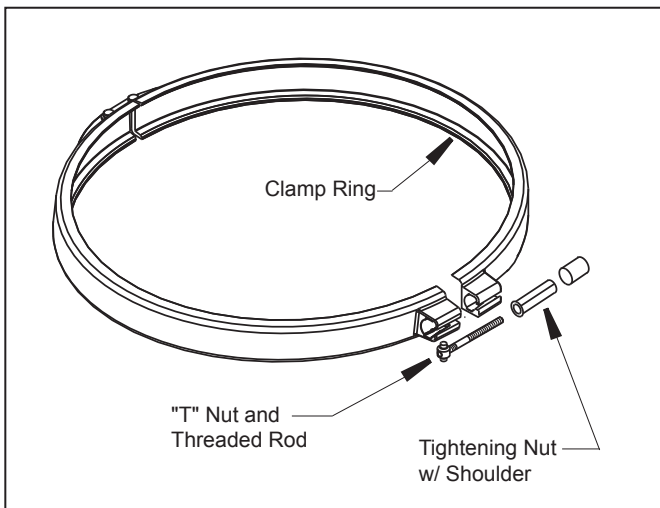

Figure 9. Filter Clamp Ring
3. Place the "T" nut and threaded rod assembly into the clamp. Be sure the "T" nut is seated in the clamp in the proper orientation (See Fig. 9).
4. Use a 9/16" socket on the tightening nut until the clamp ring halves touch each other, or are within 1/16" (See Fig. 9) **but do not overtighten as the clamp can break**. If unable to tighten as indicated, do not operate the filter and **call a service technician immediately**.
3. Check that the tank clamp is correctly seated and tight (See Figs. 9 and 10).